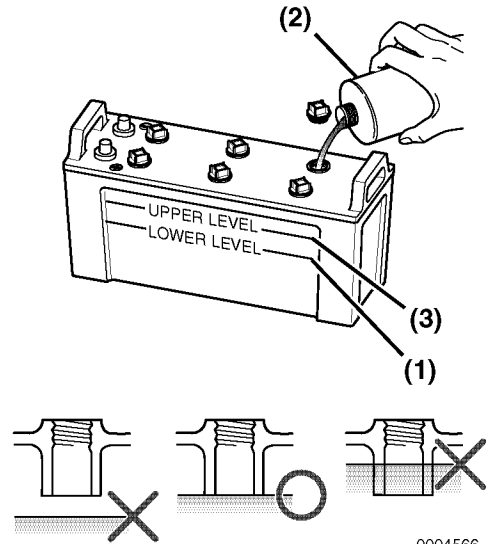

Figure 4
4. If the level is lower than the minimum fill level (Figure 4, (1)), fill with distilled water (Figure 4, (2)) (available in the grocery store) up to the upper limit (Figure 4, (3)) of the battery.